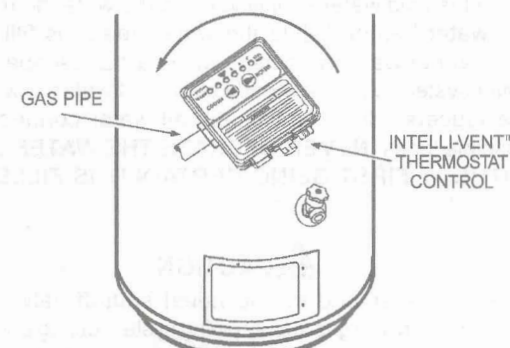

FIGURE 8.
10. Using your hand, grasp the straight pipe attached to the Intelli-vent™ Thermostat Control, (184768 Series) and rotate it counter-clockwise until the valve is fully disconnected from the water heater, see Figure 8.